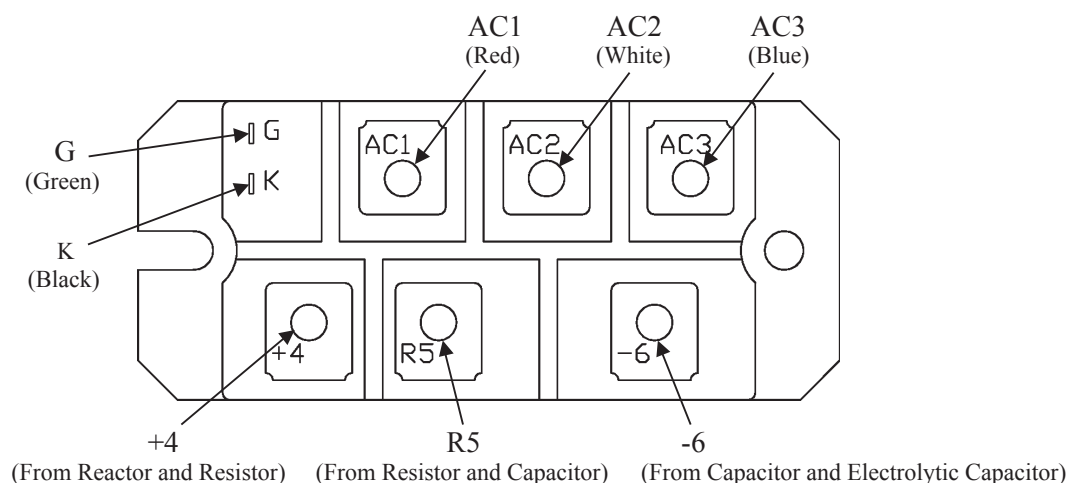

Fig.1 Part Arrangement View
6. Connect the wire to the diode module (G,K,AC1,AC2,AC3,+4,R5,-6). (See Fig 1.Parts Arrangement View)